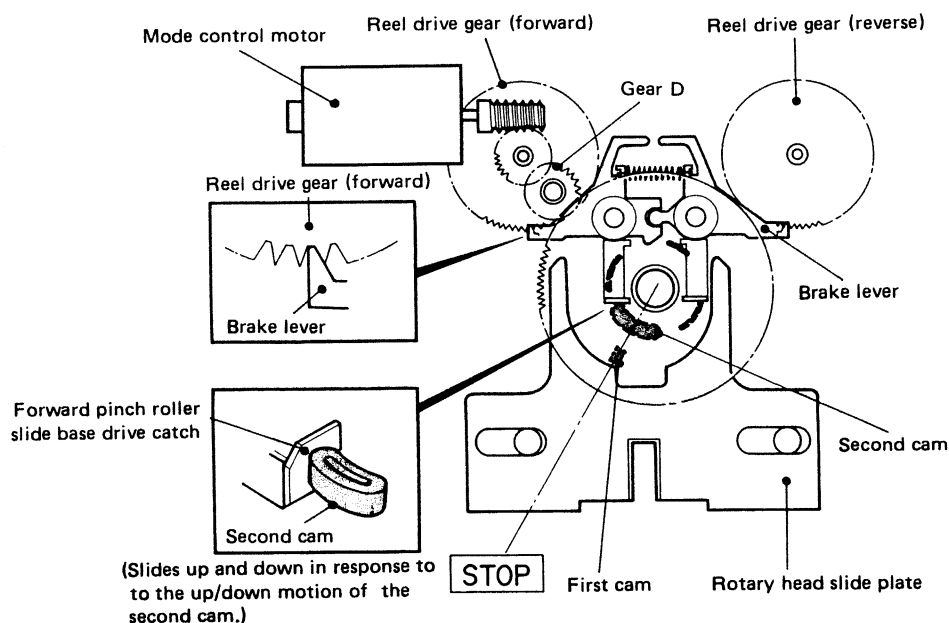
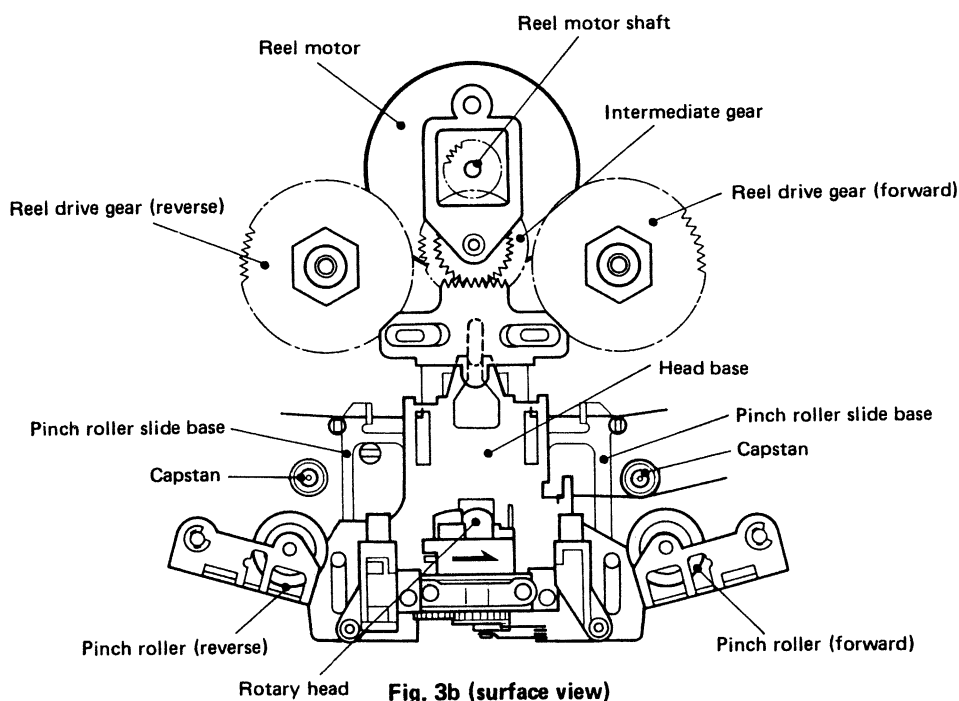

Fig. 3a (rear view)
Fig. 3b (surface view)
Fig. 3a represents the cam drive system in mode control as viewed from the rear of the deck and Fig. 3b indicates the cassette mechanism as viewed from above.
- 1) The brake cam is placed under gear D as shown in Fig. 3a. Thus, as the top end of the brake lever engages the a reel drive gear with the triangular protrusion of a brake lever in the concave of a brake cam, the reel drive gear is prevented from rotating and the reel is braked.
- 2) The first cam is placed under the cam disc plate as shown in Fig. 3a. In this cam disc plate position, the
- 3) The second cam is positioned as shown in Fig. 3a. At this time, the drive catch of the forward pinch roller slide base is in contact with the left top end of the second cam as shown in Fig. 3b. In this state of the drive catch, the rotary head and the pinch roller (forward) recede out of contact with the tape with the pinch roller slide base (forward) and the head base lowered.
- 1) When the play (reverse) button is pressed from forward stop mode, the controller works to rotate the mode control motor so that the cam disc plate turns counterclockwise from the stop position in Fig. 3a.